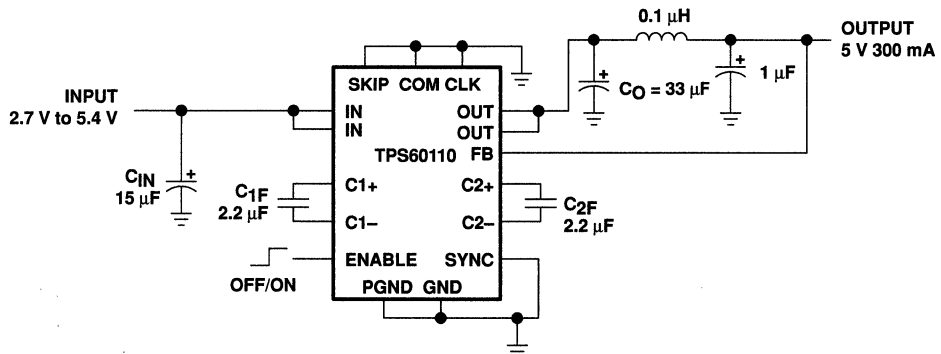

Figure 31. TPS60110 With LC Filter for Ultra Low Output Ripple Applications
For applications where extremely low output ripple is required, a small LC filter is recommended. This is shown in Figure 31. The addition of a small inductor and filter capacitor will reduce the output ripple well below what could be achieved with capacitors alone. The corner frequency of 500 kHz was chosen above the 300 kHz switching frequency to avoid loop stability issues in case the feedback is taken from the output of the LC filter. Leaving the feedback (FB) connection point before the LC filter, the filter capacitance value can be increased to achieve even higher ripple attenuation without affecting stability margin.